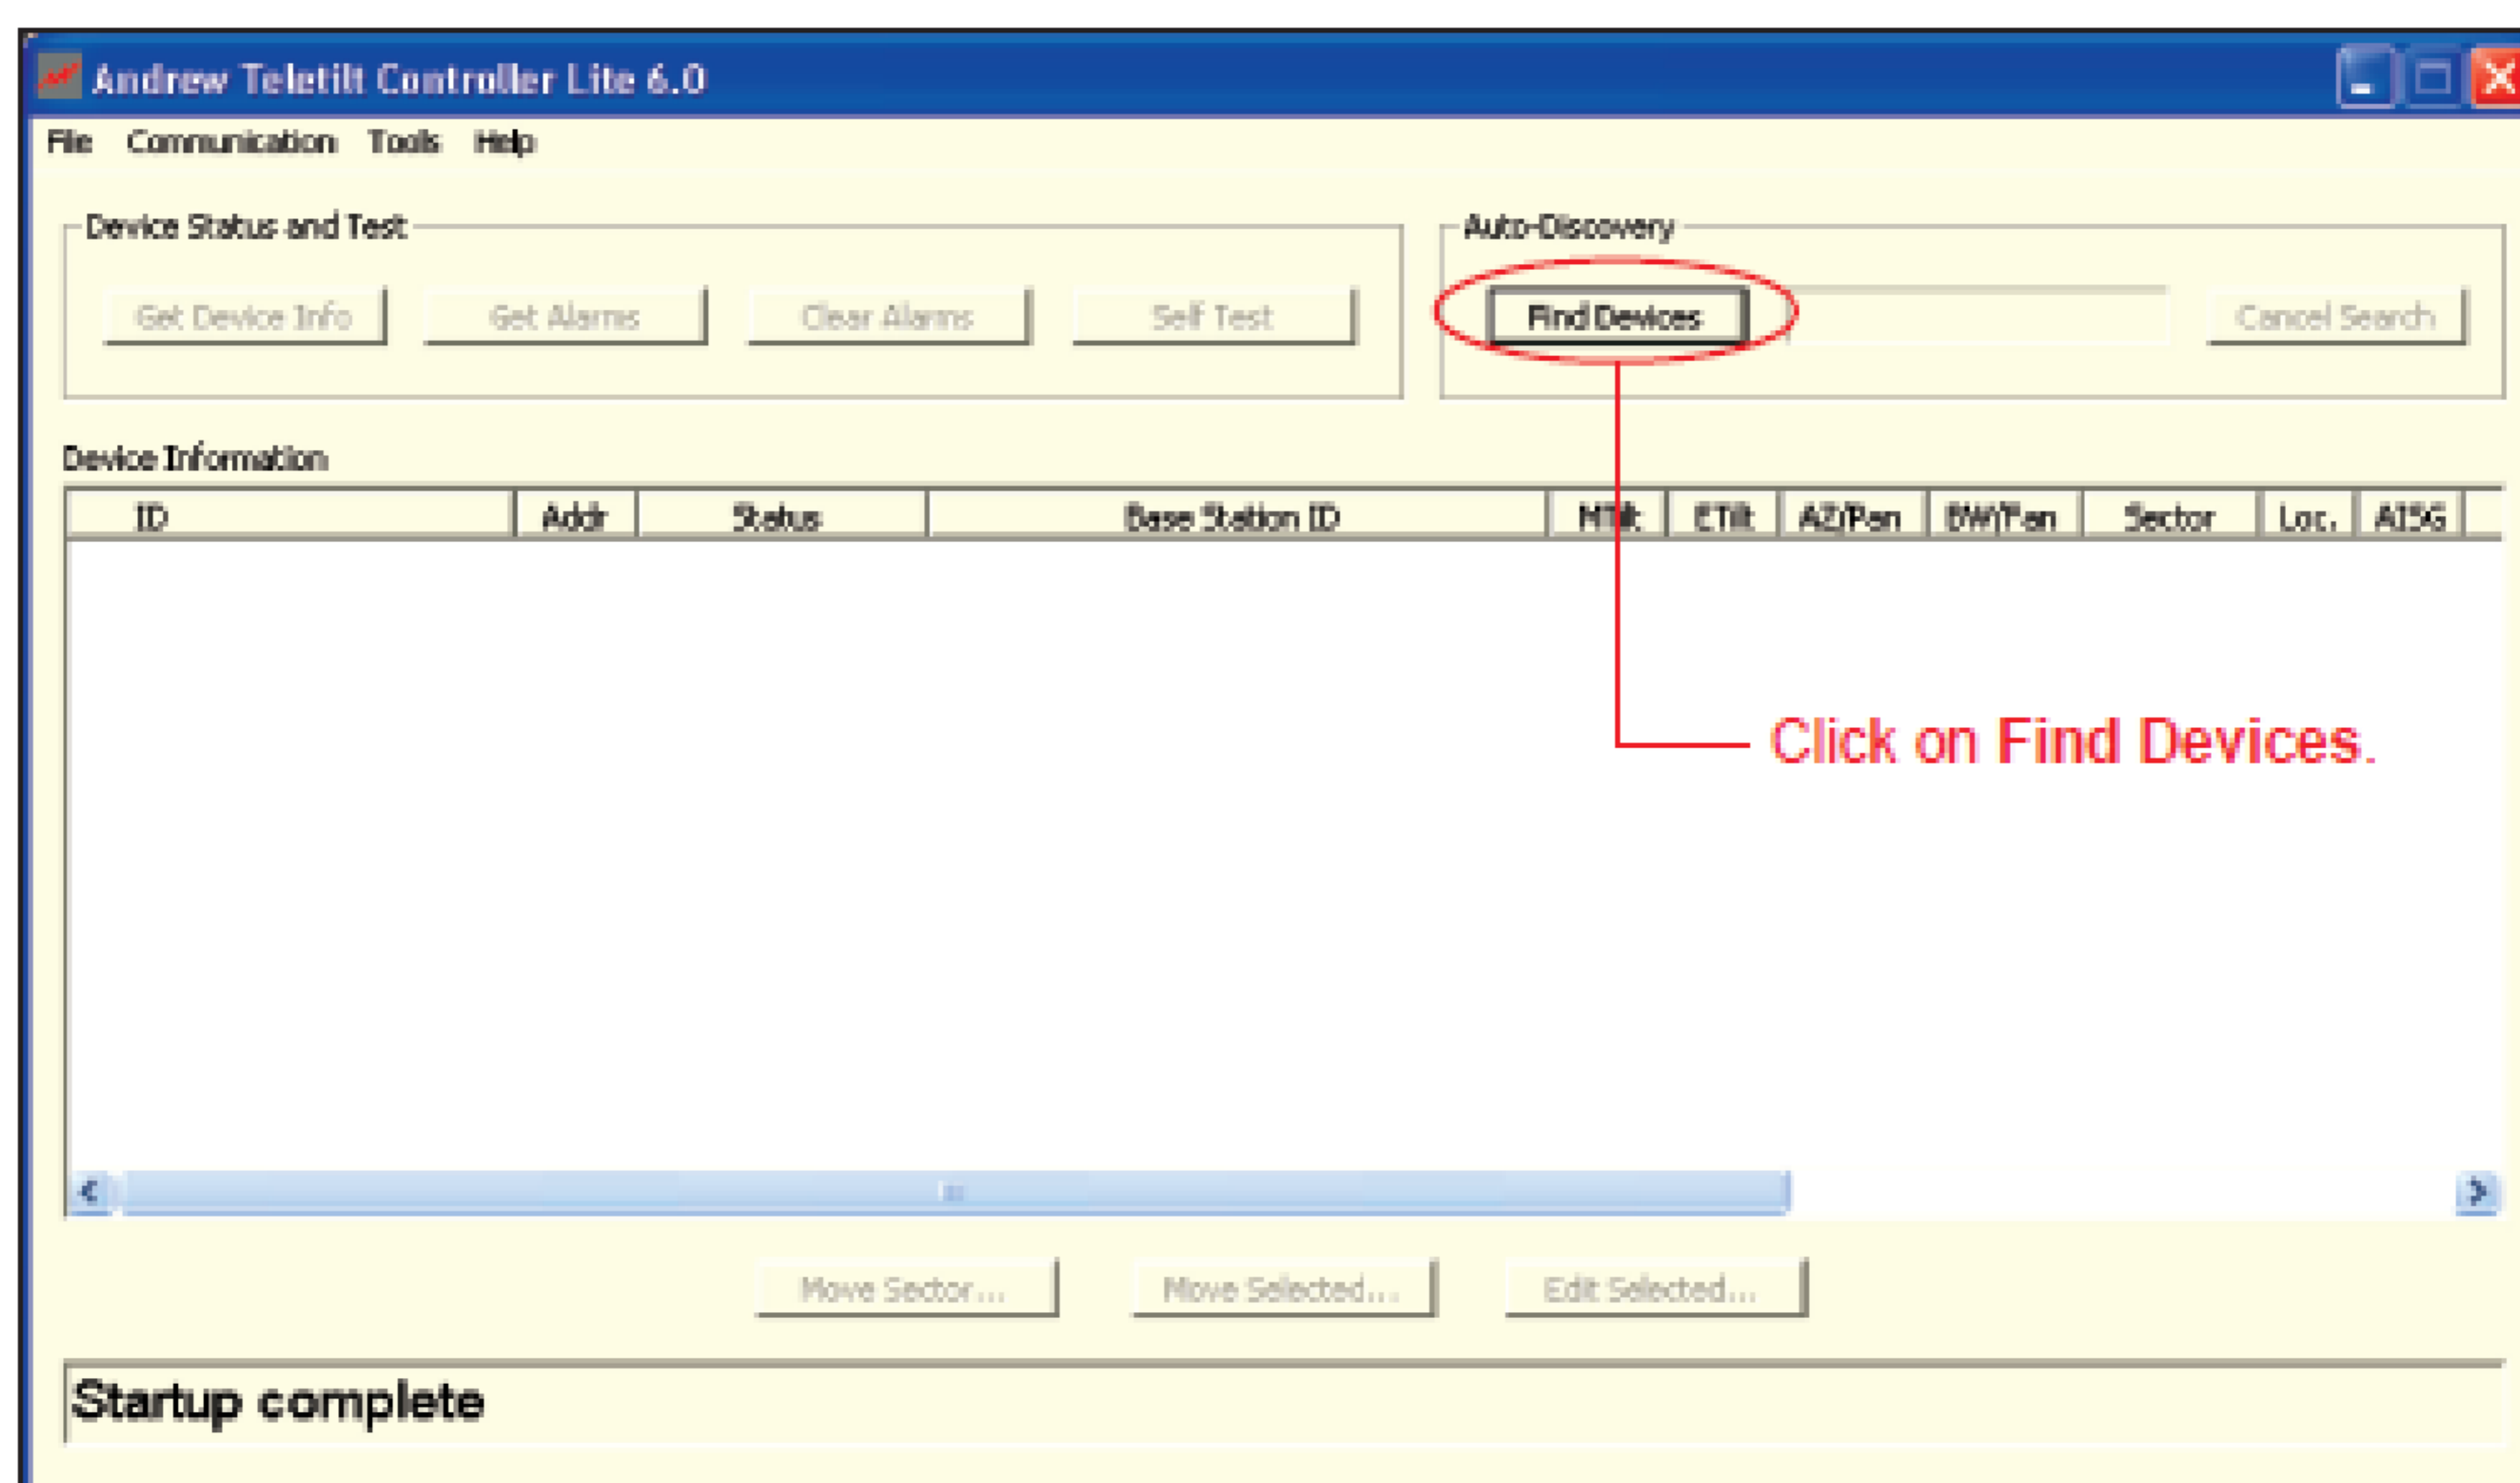

Figure 3-2. Main Startup Screen Ready For Device Search.
- Click on **Find Devices**. See Figure 3-2.